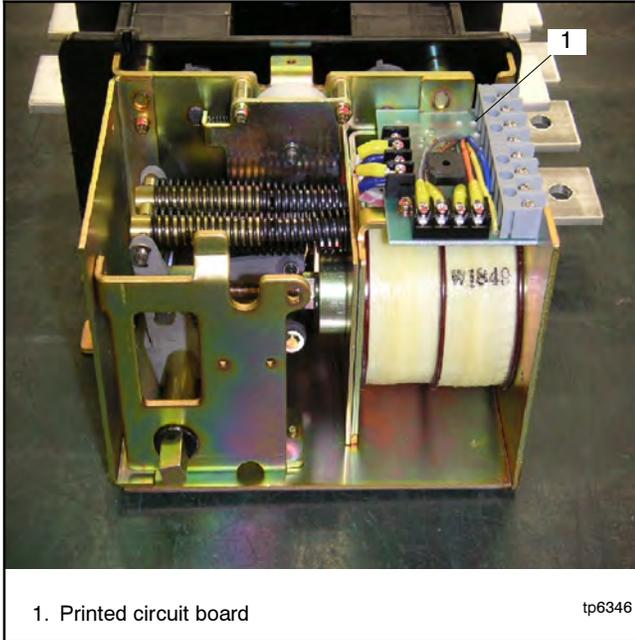

Figure 7-27 Disconnect and remove the PCB
1. Disconnect and remove the printed circuit board (PCB). See Section 7.7.3 and Figure 7-27.